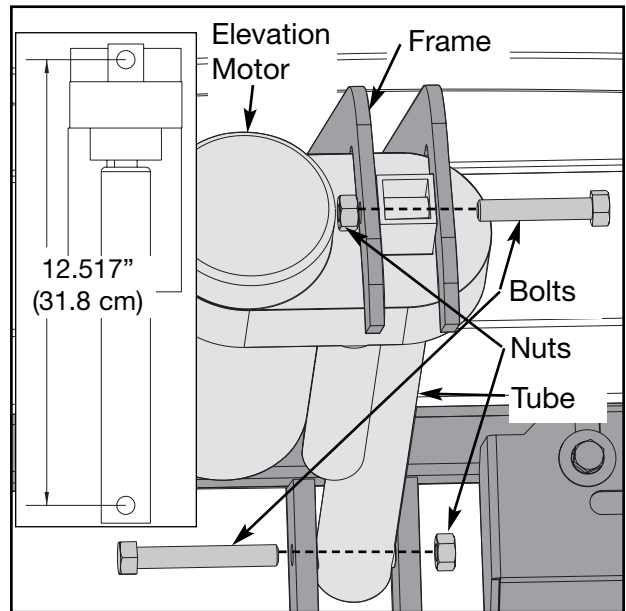

Figure 20
- B. Turn the tube with your fingers until it measures 12.517" (31.8 cm) from the center of the top hole to the center of the bottom hole. See Figure 20.
- A. Carefully place the elevation motor in position on the treadmill. See Figure 20.
- B. Slide both bolts into the slots before tightening. See Figure 20. **NOTE:** The top bolt goes from the left to the right. It doesn't matter which way the bottom bolt is positioned.
- A. Connect the main power cord into the power outlet and turn the power switch on (I).
- E. Stop the treadmill and turn the main power switch in the front panel to the off (O) position.